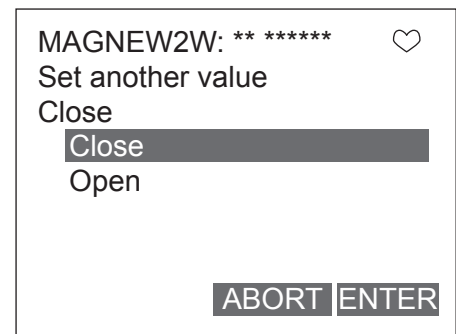

Figure 7-74
3. Figure 7-74 will appear. Move the arrow key up or down to select an OPEN or CLOSE. After making a selection, press F4 (ENTER). Selected contact will be output. Press F3 (ABORT) to return to the previous menu.